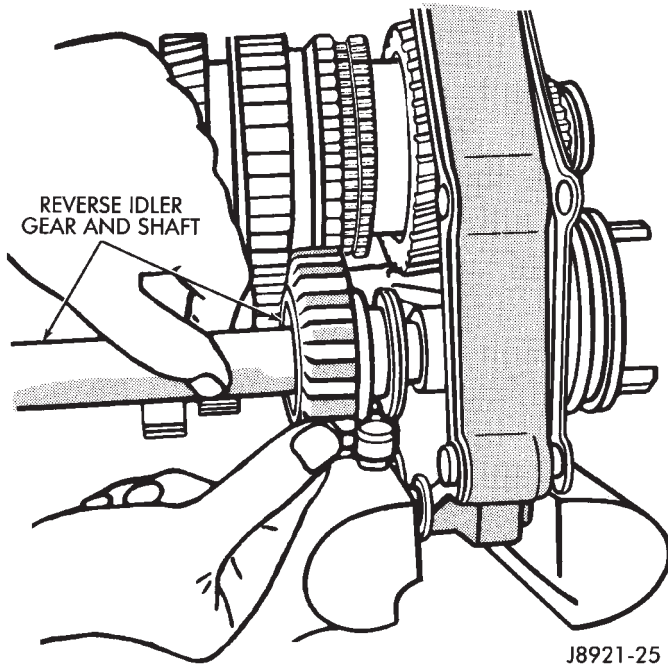

Fig. 25 Removing Reverse Idler Gear And Shaft
(11) Remove reverse idler gear and shaft (Fig. 25).